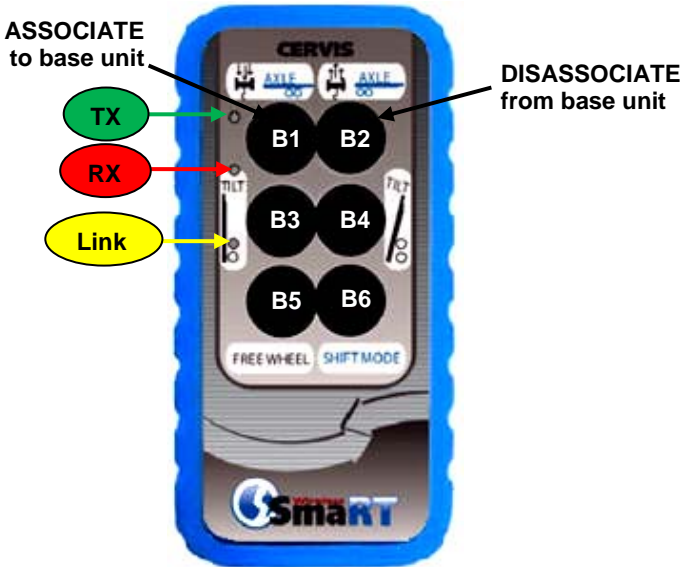

Figure 7. Associate, Disassociate Buttons, and LEDs
3. Simultaneously press and hold the Association and Disassociation buttons (see Figure 7). The TX LED lights steady green.
5. When the LINK LED flashes amber, release the two buttons. The RX LED flashes red allowing two (2) seconds for you to make the next button press.
6. Press and hold the Association button (see Figure 7 below). The RX LED extinguishes, the TX LED lights steady green, and the LINK LED lights steady amber.
3. Press and hold both the Association and Disassociation buttons (see Figure 7). TX lights steady green.
5. When LINK flashes amber, release both buttons. The RX button flashes red allowing two (2) seconds for you to make the next button press.
6. Press and hold the Disassociation button. (See Figure 7 above.) The RX extinguishes, the TX lights steady green, and the LINK LED lights steady amber.